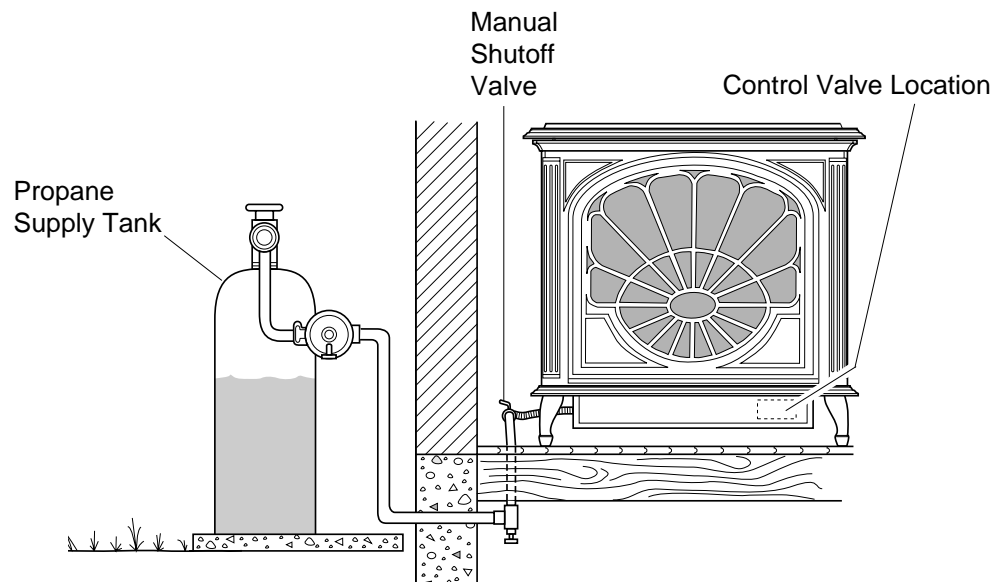

Figure 21 - Checking Gas Joints
4. Check all joints from manual shutoff valve to control valve (see Figure 21). Apply mixture of liquid soap and water to gas joints. Bubbles forming show a leak.